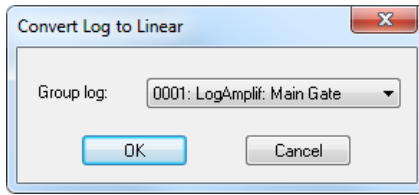

Figure 7-85 The Convert Log to Linear dialog box
2. In the menu, select **Processing > Convert Log to Linear** (see Figure 7-85 on page 428).